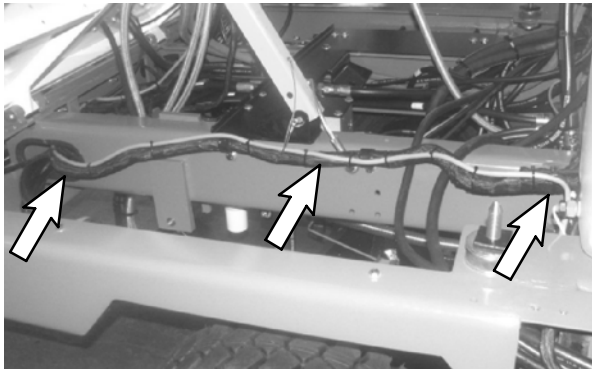

FIG. 23
39. Route the arrow stick cable assembly (2) along the main wire harness and to the hopper. Use cable ties (12) to secure the arrow stick cable assembly to the wire harness. Refer to Fig. 23.